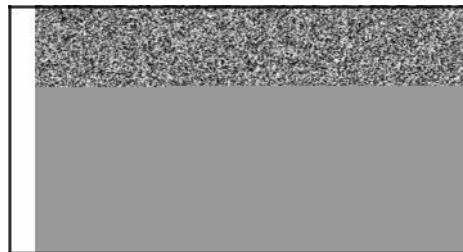

Figure 7
NOTE: The notch or arrow (A, Figure 7) on the piston and "MAG" on the rod (B) must face the same direction. When installed in engine, the notch will face the flywheel.